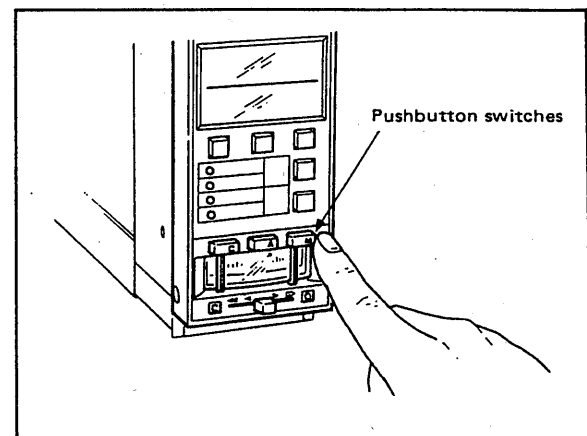

Figure 5-4-1. Transfer between Control Modes.
The controller mode can be freely selected by pressing the **C**, **A** or **M** pushbutton. (Figure 5-4-1)
- (1) Select the **M** mode switch. (The lamp inside the pushbutton lights.) (Figure 5-4-1).